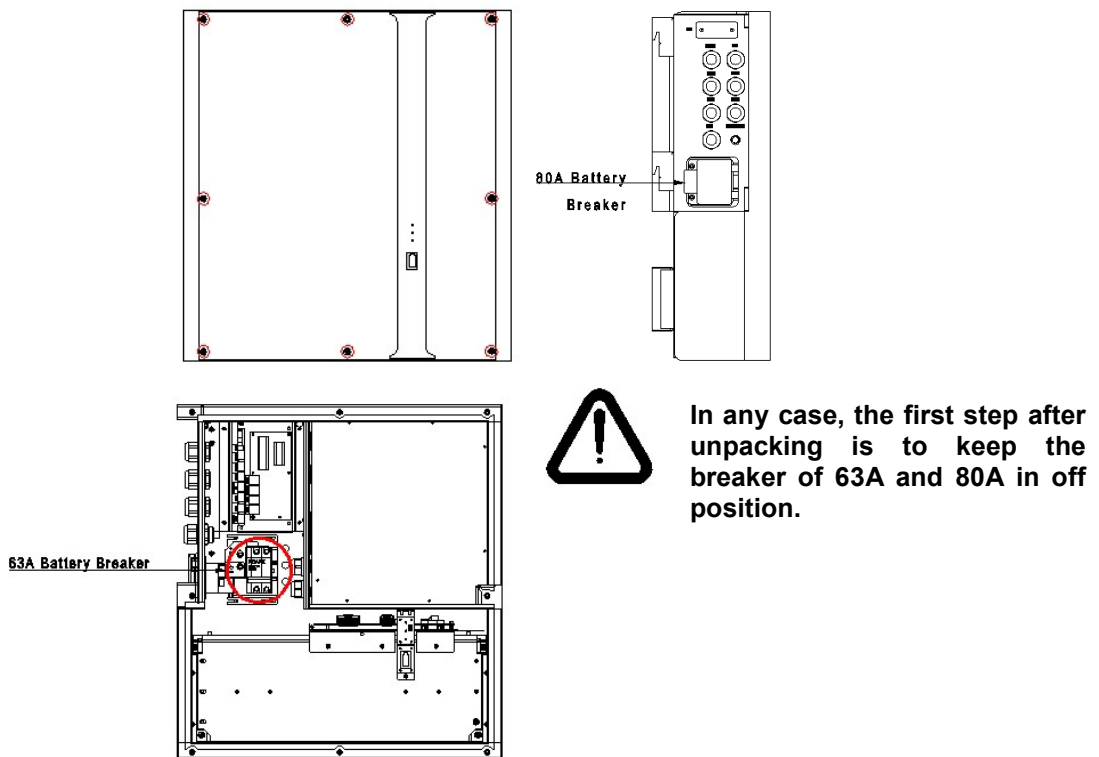

Figure 2.7 Remove Storion-SMILE-B3 Upper Cover Plate
Step 2: Use the T20 double offset ring spanner to unscrew the screws, as shown in Figure 2.7.